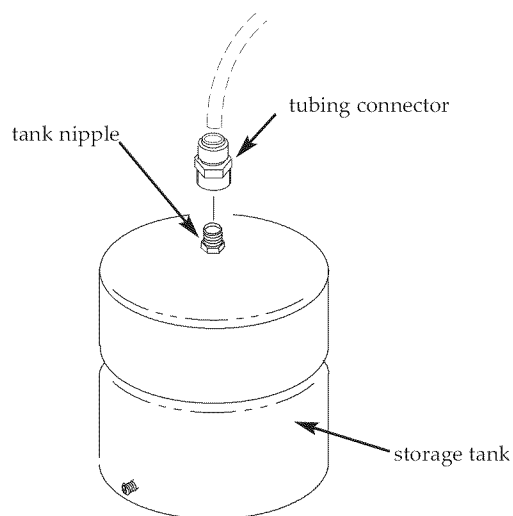

Figure 12
1. Apply thread sealing tape to the threads on the nipple at the top of the tank (max. 2 wraps). See Figure 12.
2. Locate the tubing connector. Tighten the tubing connector with a wrench onto the tank nipple 7-8 turns, being careful not to cross thread or overtighten. See Figure 12
5. Connect yellow tank tubing to tank connector. See Figures 12 and 22.